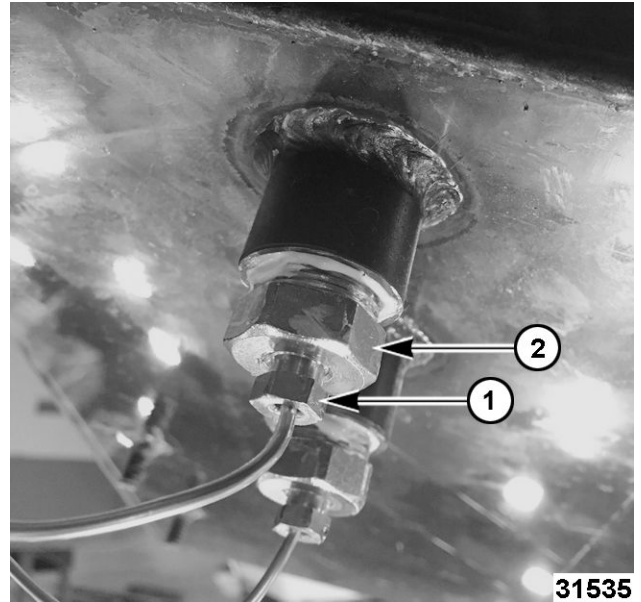

Fig. 14
6. Loosen packing nut (1, Fig. 14) and remove holding nut (2, ).